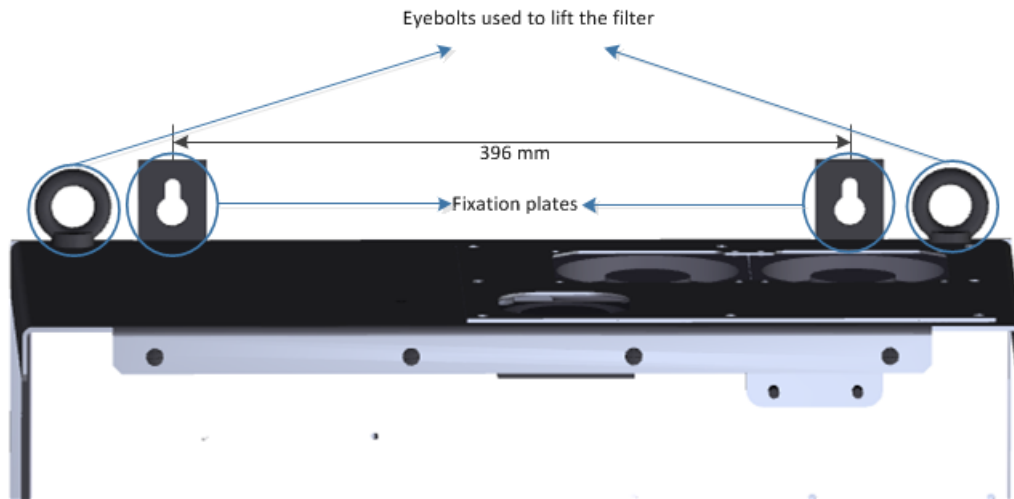

Figure 21: Eyebolts and fixation of PQFS
- 2 bolts M8 are needed to install the filter on the wall (Figure 21). Use a spirit level to ensure horizontal fixation.